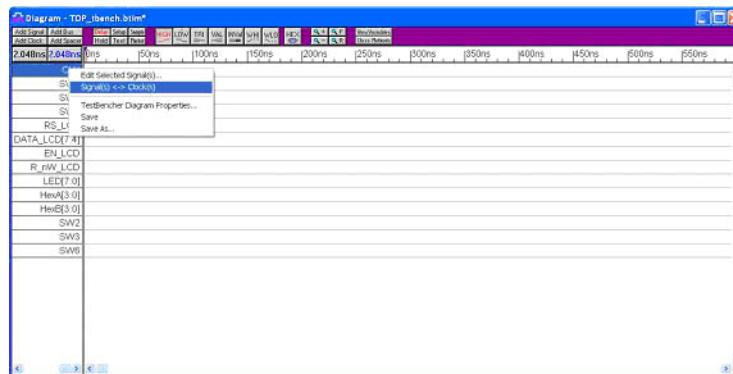

Figure 7-15 • Create Clock Signal in Waveformer Lite
1. Right-click the Clock signal to select it. Select **Signal(s) <-> Clock(s)** to create the clock signal (Figure 7-15).